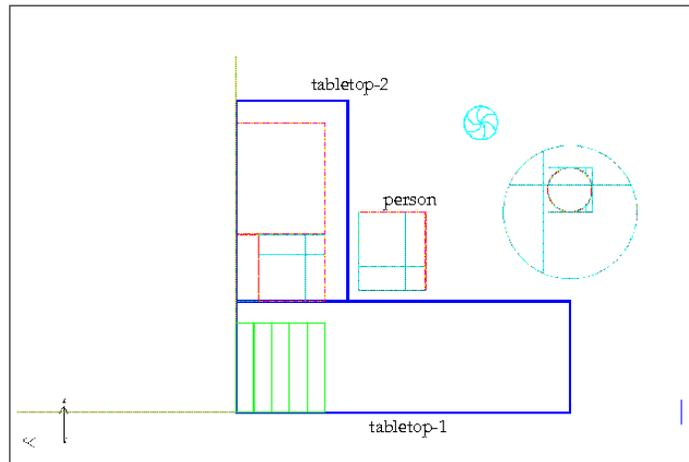

Figure 4.12: Close-Up View of the Rectangular Tabletop Objects
- (b) Use the right mouse button to zoom into the CAD geometry representing the partitions and the middle button to translate the view, as shown in Figure 4.12.
- ii. Using the left mouse button, click on the L-shaped object that comprises the tabletop (shown in Figure 4.12) in the graphics window.